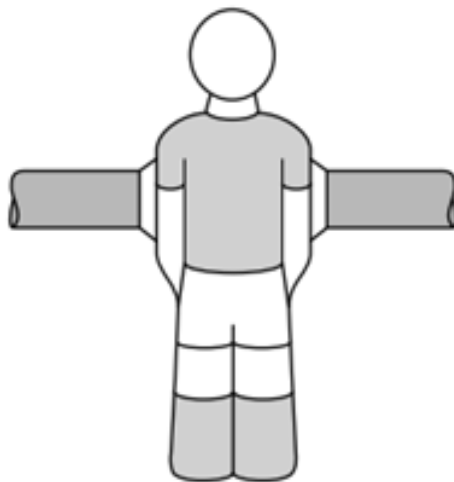

Fig. 18
- (h) (i) Fig. 18 shows one of the table football game players and the metal rod to which it is attached. The players are made from injection moulded plastic. Add sketches and notes to Fig. 18 to show how the player could be fixed to the metal rod without the use of adhesive.